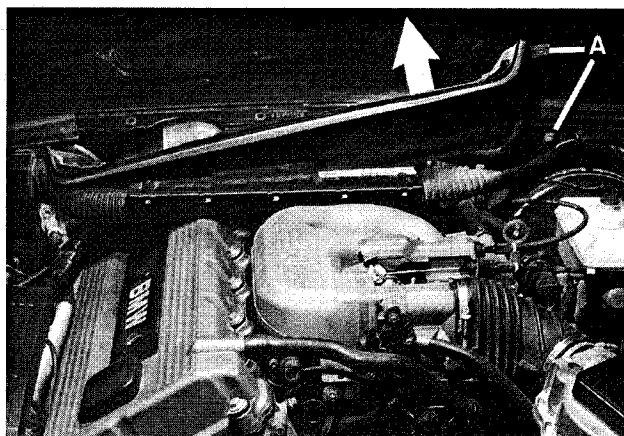

Fig. 15. Remove screw at A and pull plenum upward.
7. On driver's side of air plenum, push aside wiring harness and remove screw retaining plenum. Pull plenum up and remove from engine bay. See Fig. 15.